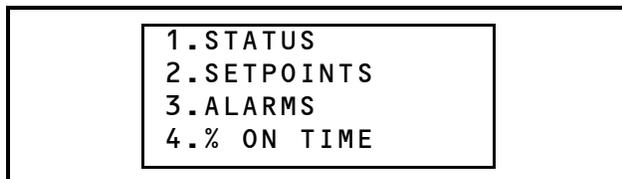

Figure 1-12 - Main Configuration Screen
2. The Main Configuration screen should be visible (*Figure 1-12*). Use the  button to move the cursor to **2. SETPOINTS**.
2. The Main Configuration screen should be visible (**Figure 1-12**). Press the  button to move the cursor to **3. ALARMS**. Press the  button to select and open the Alarm screen.
2. The Main Configuration screen should be visible (**Figure 1-12**). Press the button to move the cursor to **4. % ON TIME**. Press the button to select and open the Percentage On Time screen.